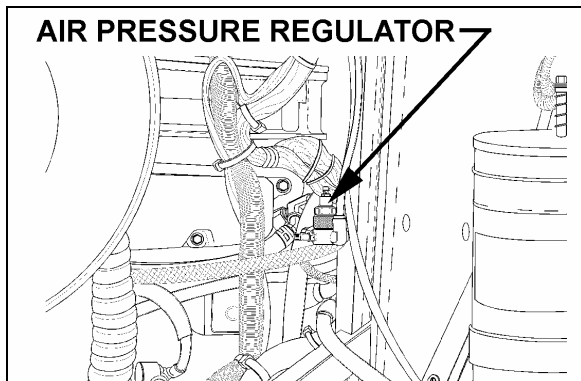

FIGURE 15: AIR PRESSURE REGULATOR (TYPICAL) 07037
21. Adjust the retarder pressure to 80 ± 3 psi with the air pressure regulator. For more information refer to Section 12, "BRAKE AND AIR SYSTEM", under heading "AIR PRESSURE REGULATOR". The air pressure regulator is located at back of engine compartment, on R.H. side (Fig. 15) or in the R.H. side rear service compartment.